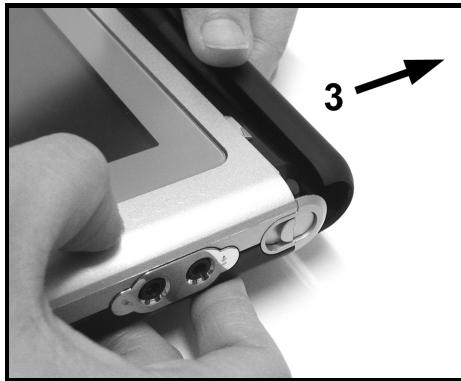

Figure 2
- Remove battery cover, then remove the discharged batteries as shown in **[Figure 2]** and replace with new Lithium battery.